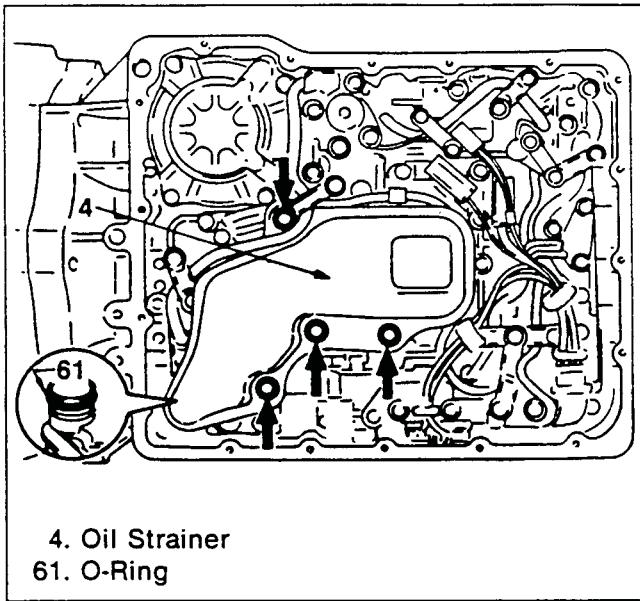

Figure 298. Oil Strainer Installation
**Oil Strainer (Figure 298)**
2. Attach the oil strainer to the control valve (figure 298).